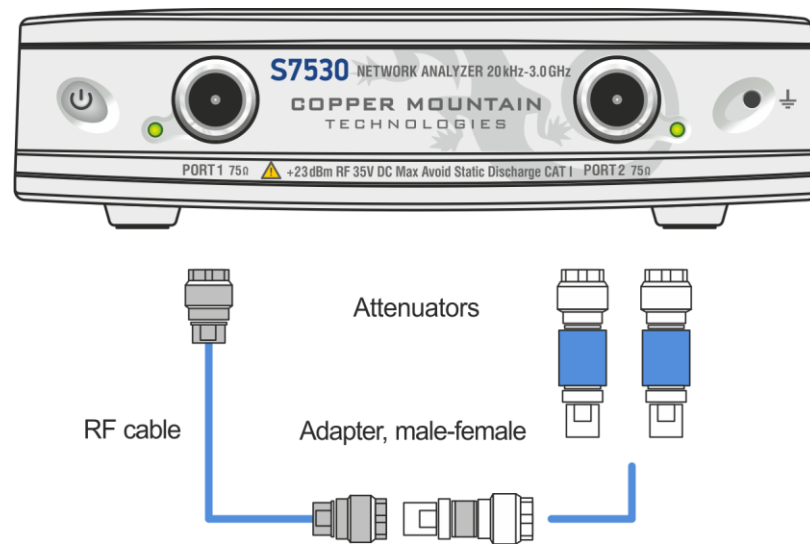

Figure 3 – Transmission coefficient accuracy measurement setup.
6.3.5.6 Connect the measurement setup as shown in Figure 3. Do not connect the attenuators. Use the torque wrench to tighten the RF cable connectors and adapter. The RF cable should be a phase and amplitude stable, test-grade cable.